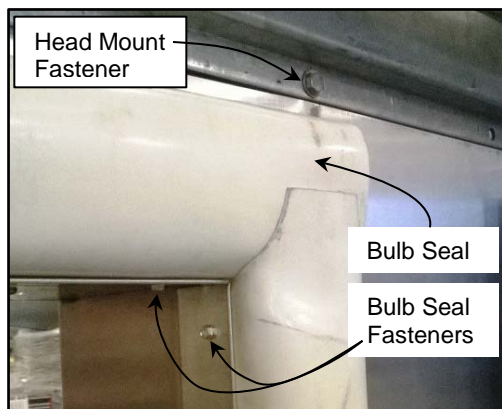

Figure 19
4. Check that all the self-tapping screws used to secure the bulb seals are tight and in place. Tighten and replace any loose or missing hardware. (See Figure 19)